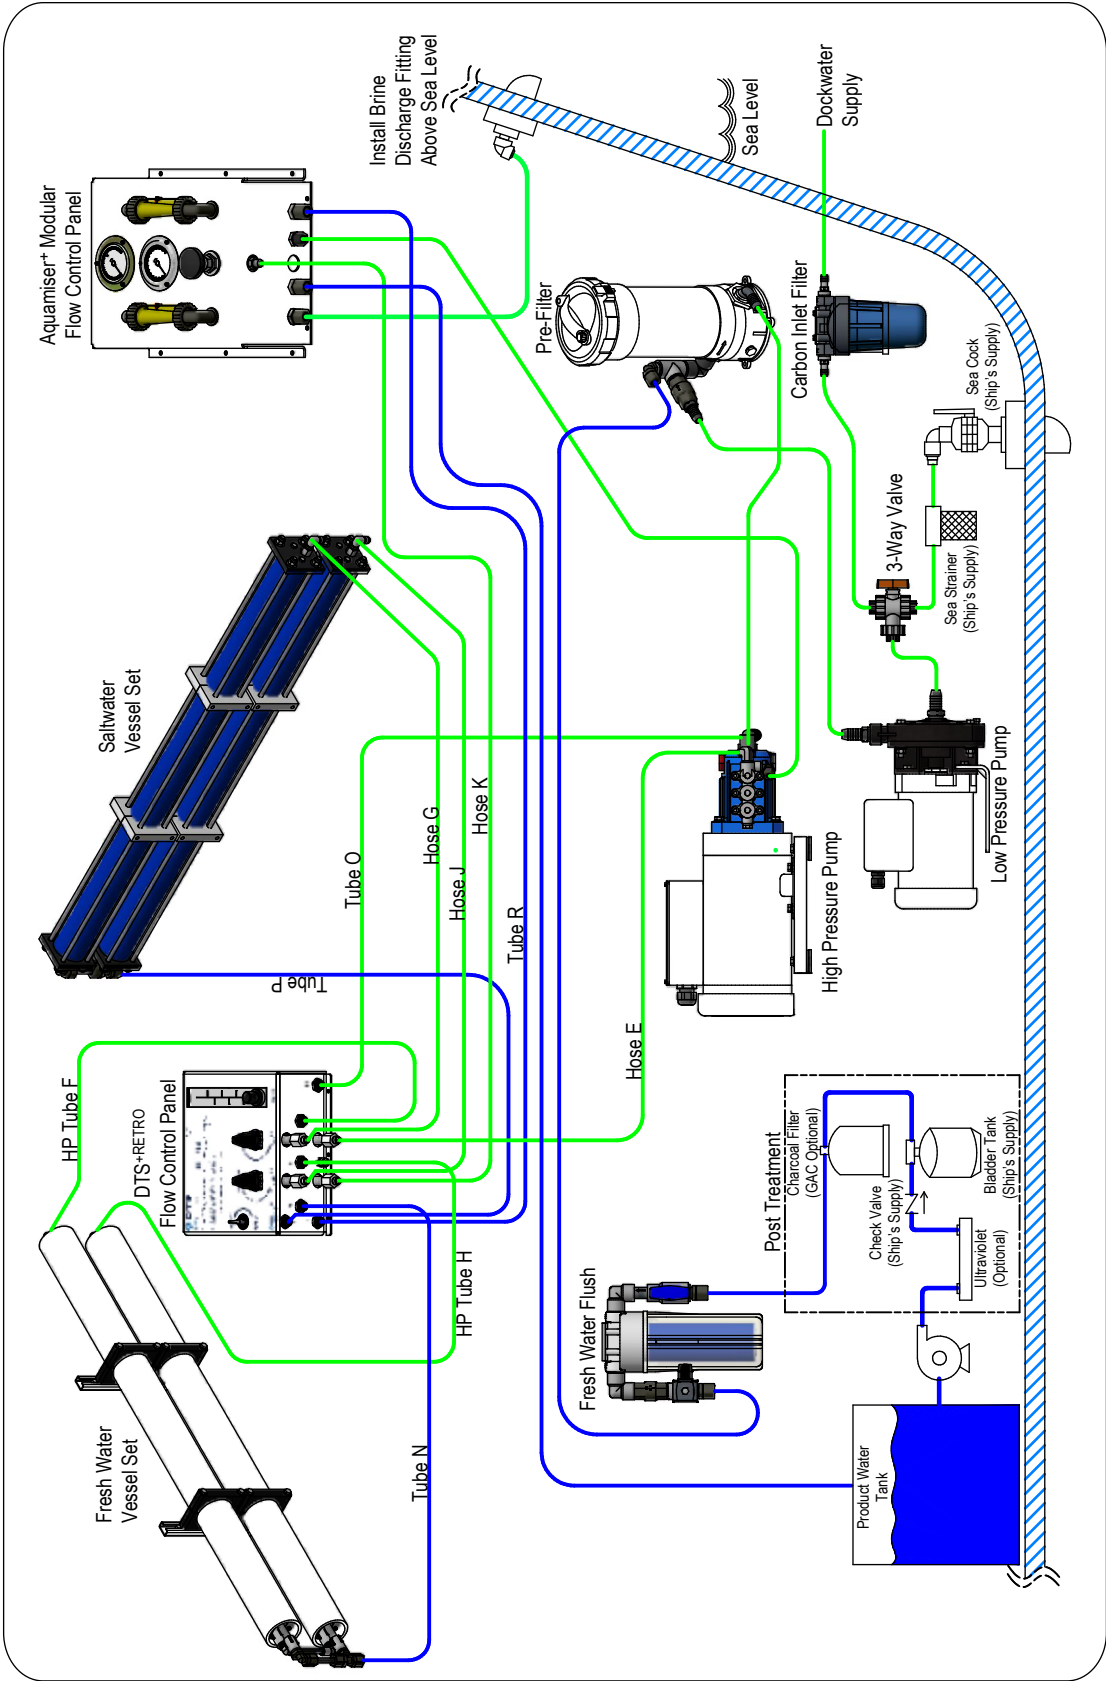

Figure 17: Aquamiser® Modular 800-1,200 GPD with DTS+RETRO
- "Figure 17: Aquamiser+ Modular 800-1,200 GPD with DTS+RETRO" on page 39